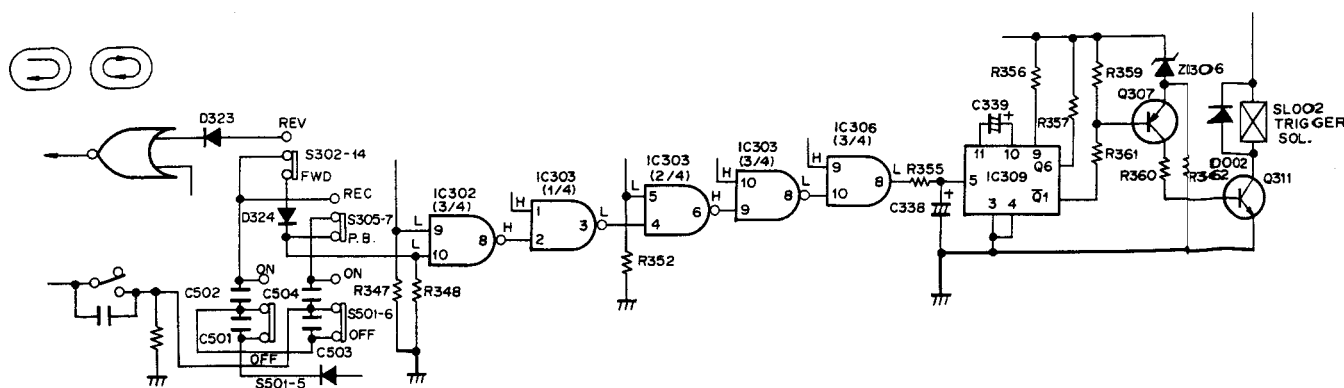

Fig. 7-10 ○ POS, ○ POS circuit
• ⊃ POS (Fig. 7-10)
● ○ POS (Fig. 7-10)
- The solenoid activation circuit is shown in Figure 7-10. The Q306 base is connected through R339 to the TTL IC (IC305) No.2 pin.